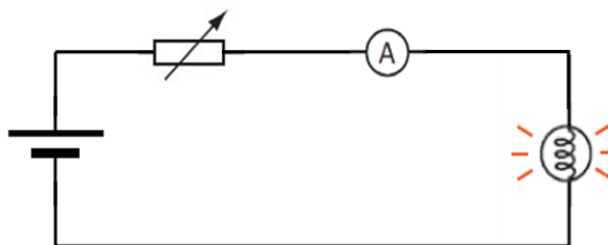

Figure3. The components connected in series
2. The power supply, resistance box, the ammeter and the lamp were connected in series connection as shown in figure3.